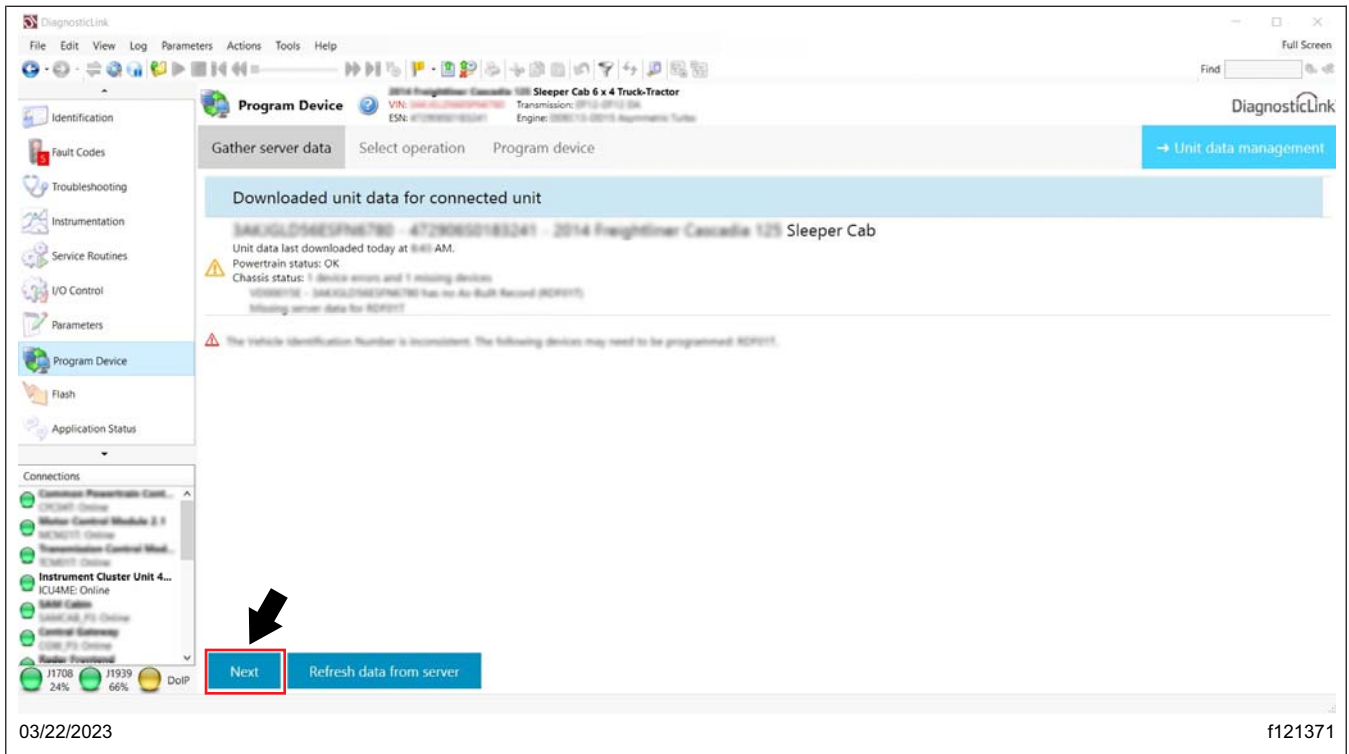

Fig. 13, Selecting Next
8.7 Select 'Next.' See Fig. 13.